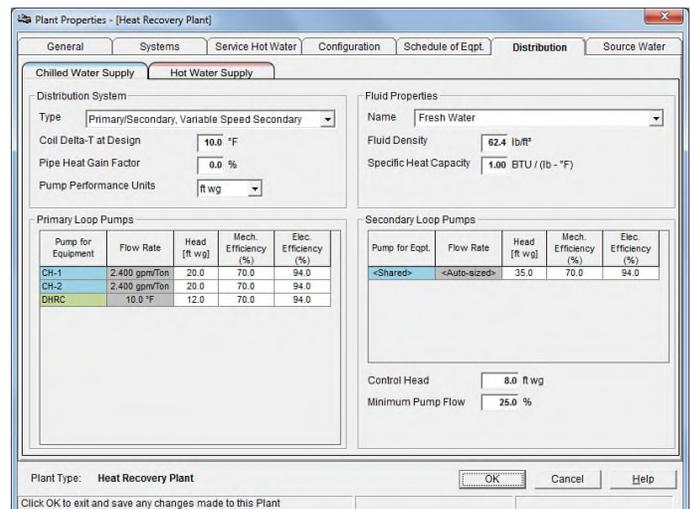
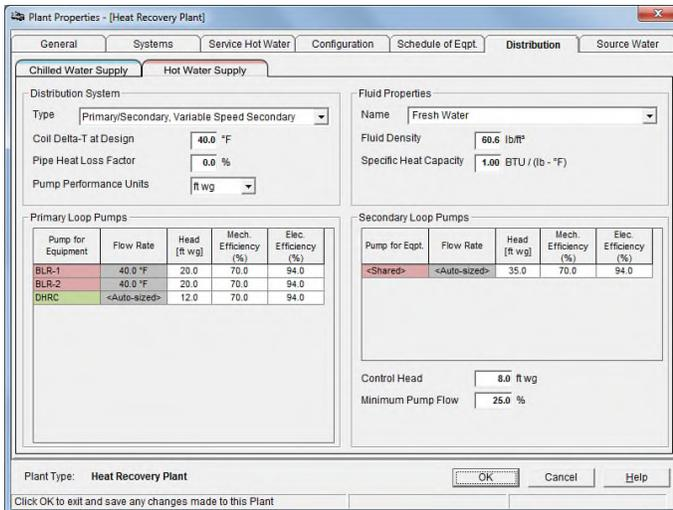

Figure 12.
Figure 13.
The Distribution Tab is used to define the performance of the chilled water and hot water distribution loops. The tab contains two sub-tabs: one for the chilled water supply loop, color coded blue, (Figure 12) and one for the hot water supply, color coded red (Figure 13).
In Figure 12 note that there are two rows in the Primary Loop Pumps section color coded blue and labeled as CH-1 and CH-2. These are the primary chilled water pumps for the two cooling-only chillers in our example. A third item shown in green and labelled as “DHRC” is the circulating pump on the evaporator side of the DHRC. This pump circulates water from the condenser water loop to the DHRC.
- Inputs on the **Hot Water Supply** sub-tab (Figure 13) are similar to those for a conventional hot water plant. You select the distribution system type, specify fluid properties and pump performance.
In Figure 13 note that there are two rows in the Primary Loop Pumps section color coded red and labeled as BLR-1 and BLR-2. These are the primary hot water pumps for the two boilers in our example. The third line item color coded in green and labeled as “DHRC” is the heat recovery booster pump. In Figure 1 this is the pump in the heat recovery leg of the system (middle left in Figure 1) that circulates water from the hot water return pipe to the DHRC machine.